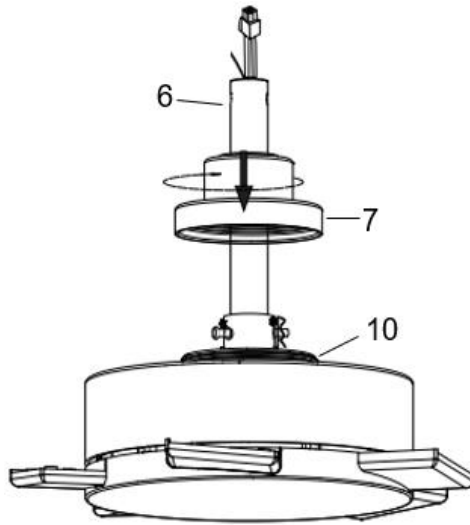

Fig. 4.5
6. Insert the decorative cover (7) onto the down rod (6) to cover the down rod coupling housing (9).
Finally install the decorative cover (7) onto the fan assembly (10), secure it by turning it clockwise. (Fig. 4.5)